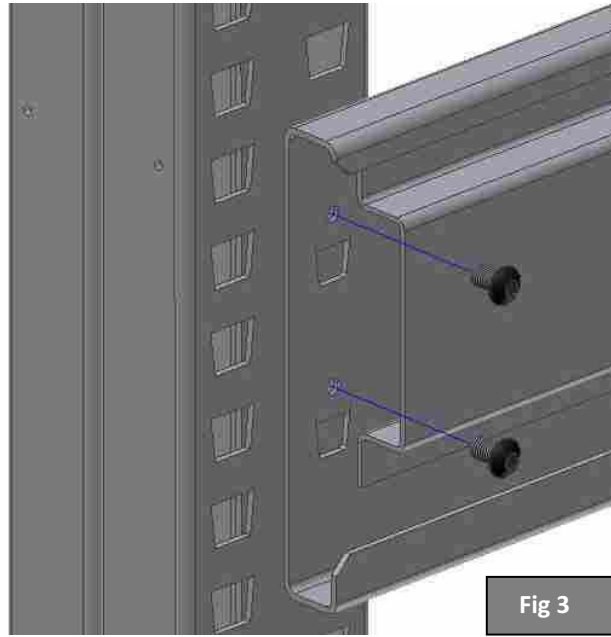

Fig 3
STEP 2 – Mount the **safety screws (M6x10 ISO7380 Allen screws)** of the **TFT supports** to prevent them coming out of the trapezoid (Fig. 3).